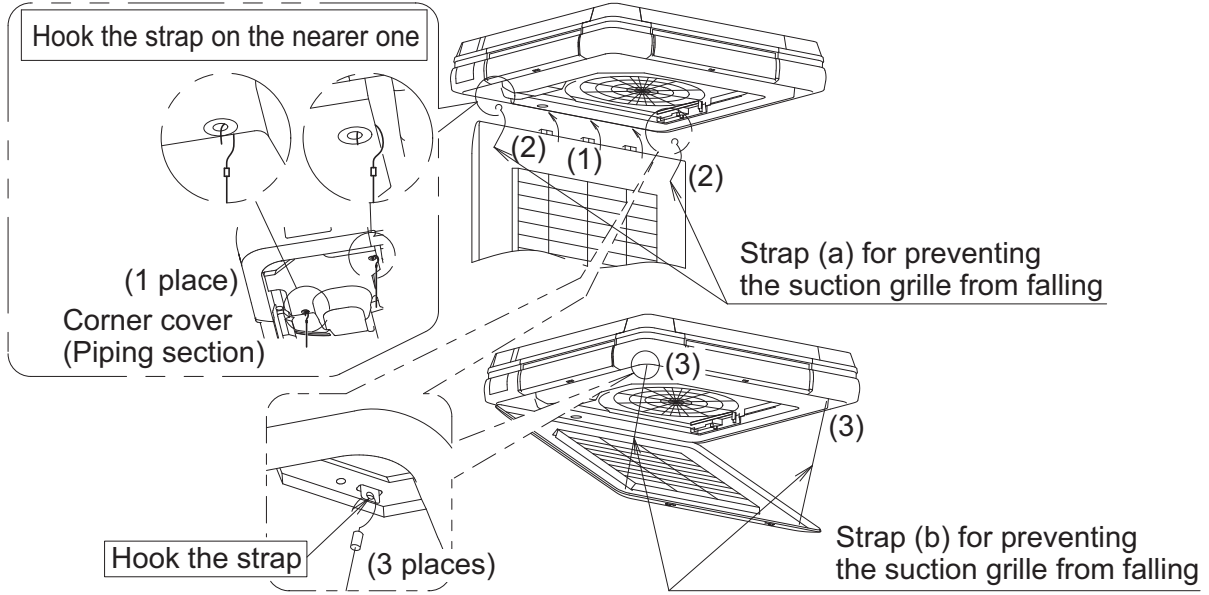

Fig. 49
- After attaching the suction grille in opposite order mentioned in the clause “4. PREPARATION BEFORE INSTALLATION - (3)” **(Refer to Fig. 49-(1))**, hook the strap (a) for preventing the suction grille from falling **(Refer to Fig. 49-(2))**.
- Hook the strap (b) for preventing the suction grille from falling. **(Refer to Fig. 49-(3))**